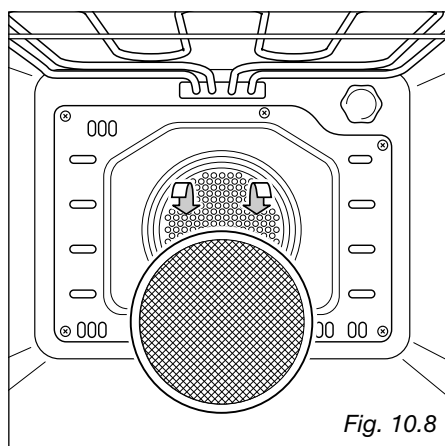

Fig. 10.8
- Slide in the grease filter on the back of the oven as in Fig. 10.8.
The grease filter can be removed for cleaning and should be washed regularly in hot soapy water (fig. 10.8).